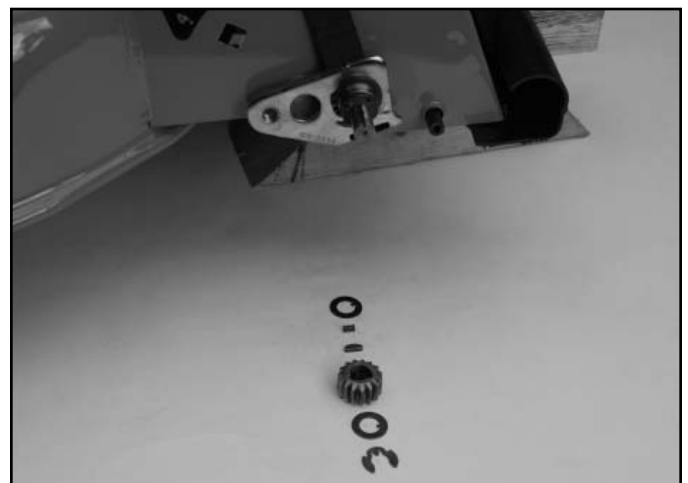

Fig 097
10. Remove klip ring, thrust washer, pinion, key spring and thrust washer (Fig. 097).